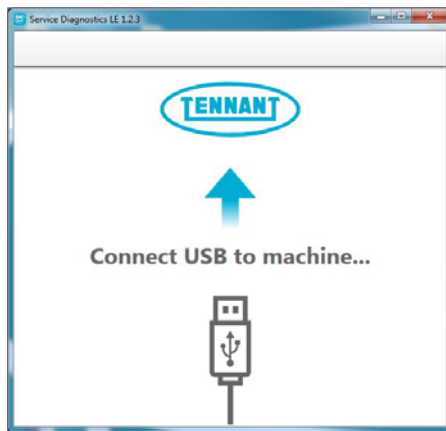

Fig. 38
1. Start the Service Software Application program. After start up, the following screen will appear (Figure 38).